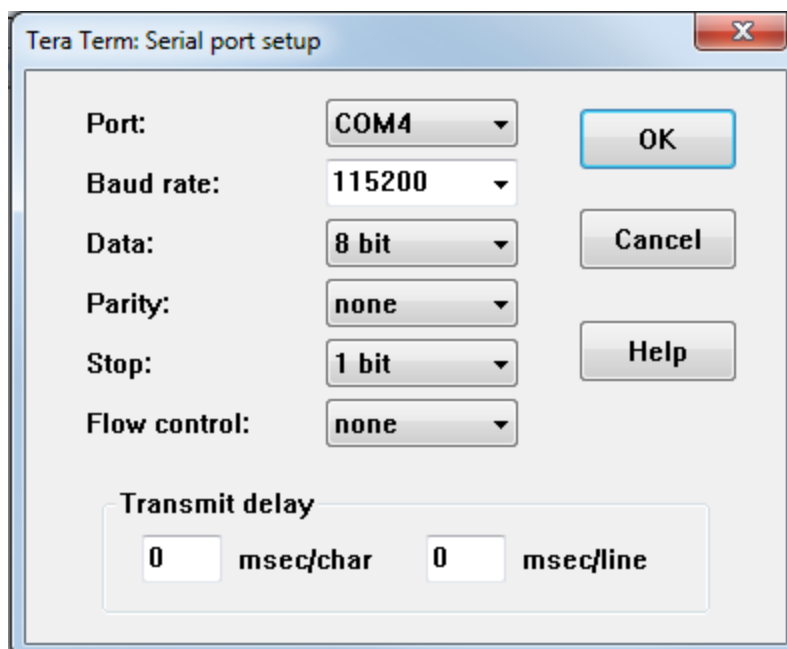

Figure 13 – Connect Tera Term to the proper COMx port
14. On the PC, open a serial terminal program. Tera Term is used to show the example output for this lab document. Follow the instructions in the CP210x Setup Guide to set the terminal as shown in Figure 13, using the appropriate COM port that you discover on your own machine.